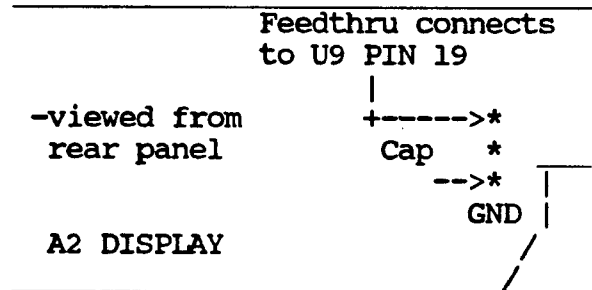

Figure 1.
3. Solder the capacitor (HP 0160-4103 provided in the kit) to the A2 Display assembly as shown in Figure 1.